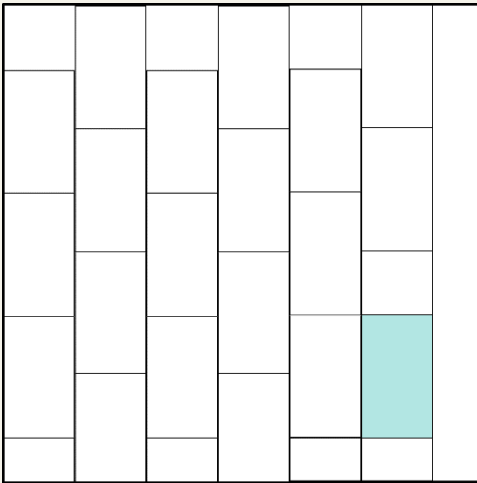
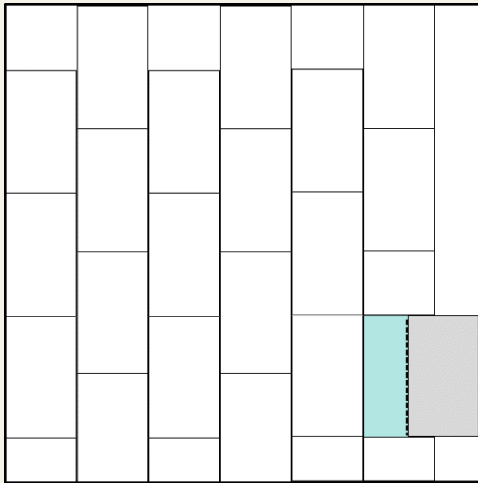
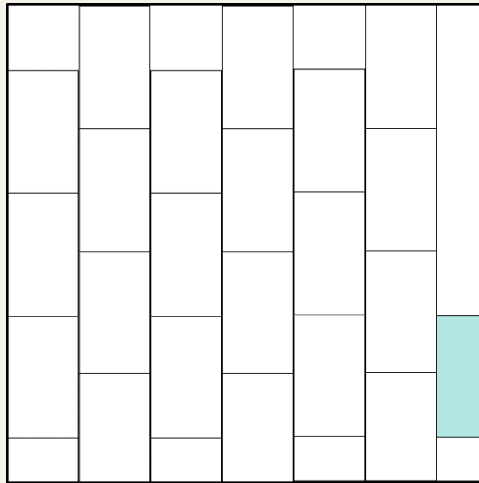

Figure 7
Figure 8
Figure 9
1. Place a full tile (Blue) on top of the last complete row in the position it will be installed (Figure 7). Take another full tile (Gray) and place it against the wall on top of the tile to be trimmed (Figure 8). Use the edge of the tile on top (Gray) to mark and cut the uninstalled full tile (Blue Tile). Take the cut piece and place it in position along the wall. (Figure 9)
1. Place a full plank (Blue) on top of the last row in the position it will be installed (Figure G). Take another full plank (Gray) and place it against the wall on top of the (blue) plank to be trimmed (Figure H). Use the edge of the tile on top (Gray) to mark and cut (or use a straight edge to cut) on the uninstalled full plank (Blue). Take the cut piece and place it in position along the wall. (Figure 9)